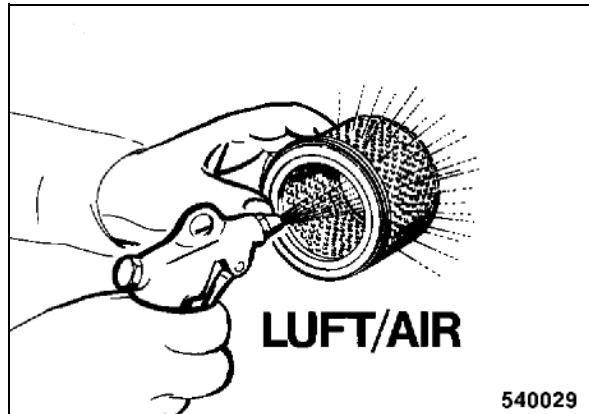

Fig. 60 □
- In case of dry fine dust blow out the filter cartridge carefully from inside to outside with dry, clean compressed air (Fig. 60) (max. 6 bar).